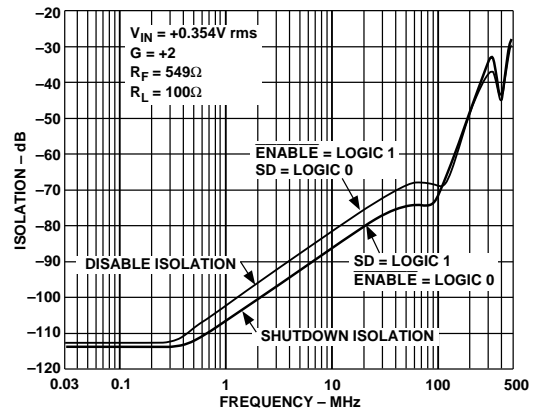

Figure 14. AD8174R Disable and Shutdown Isolation vs. Frequency
⁷AD8174 only. Shutdown (SD) pin is grounded. Mux is disabled, (i.e., ENABLE = Logic 1) and all inputs are driven simultaneously with $V_{IN} = 0.354$ V rms. Output is monitored at $f = 5$ MHz and 30 MHz; $R_L = 100$ Ω. In this mode, the output impedance of the disabled mux is very high (typ 10 MΩ), and the signal couples across the package; the load impedance and the feedback network determine the crosstalk. For instance, in a closed-loop gain of +1, $r_{OUT} \approx 10$ MΩ, in a gain of +2 ($R_F = R_G = 549$ Ω), $r_{OUT} = 1.1$ kΩ (see Figure 14).
⁸AD8174 only. ENABLE pin is grounded. Mux is shutdown (i.e., SD = Logic 1), and all inputs are driven simultaneously with $V_{IN} = 0.354$ V rms. Output is monitored at $f = 5$ MHz and 30 MHz; $R_L = 100$ Ω. (see Figure 14). The mux output impedance in shutdown mode is the same as the disabled mux output impedance.